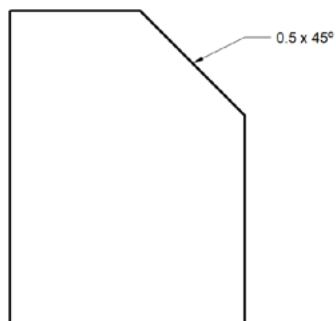

Fig. 3
- 6 On an engineering drawing which of the following mechanical features is shown in Fig. 3?